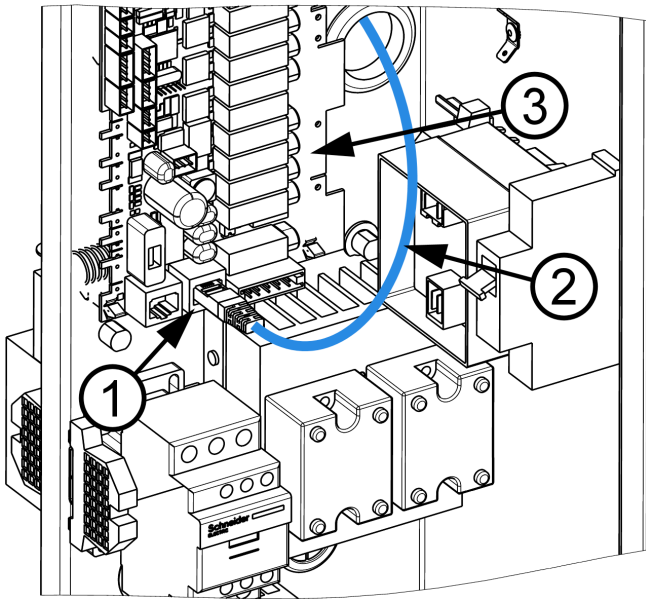

Figure 9: Fitting the UTP cable into the RJ-45 port
Fit the end of the UTP cable (2) into RJ-45 port (1), marked X4 or X5 on the relay panel (3) (see. fig. 9).